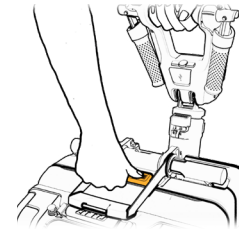

Figure 51
3. Hold the handlebar with one hand and press the central release button with the second hand until it clicks (see Figure 51).